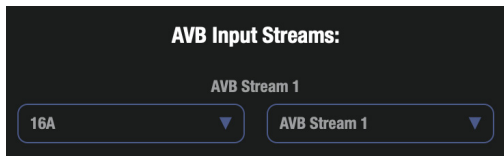

Figure 9-2: Connecting an input stream.
- 4 Go to the Device tab. In the *AVB Input Streams* section choose the 16A as a source device for one of the streams and choose *Media Clock* for its *Source Stream* (Figure 9-2 on page 73), if available. If not, choose any available input stream from the menu.